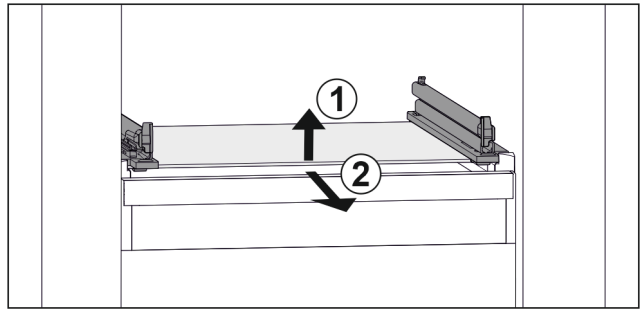

Fig. 59 Example illustration of glass shelf
- ▶ Lift glass shelf at the front. Fig. 59 (1)
- ▶ Take out glass shelf to the front. Fig. 59 (2)